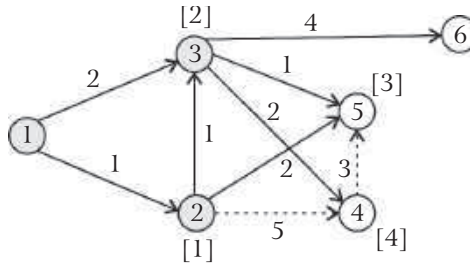

Fig. 8.18
The distance of city 4 from city 1 through city 3 is 4 and that through city 2 is $1 + 5 = 6$. As the smaller of these *i.e.* 4, so shortest distance of city 4 from city 1 is taken as 4 and shown on city 4 and the larger distance link from city 2 to 4 is shown by dotted line. Also the distance of city 5 from 1, through city 3 as well as through city 2 is same equal to 3. Also distance of city 5 from city 1 through cities 2 and 4 is $1 + 5 + 3 = 9$, which is larger. So we leave it and the shorter distance [3] is written on city 5. The larger distance line from city 2 to 4 and then from city 4 to 5 are shown by dotted lines. All these entries are shown in fig. 8.18.
Step 3: Now we add cities 7 and 8 to which one can go from the cities 1, 2, 3, 4, 5, 6 represented in fig. 8.18.